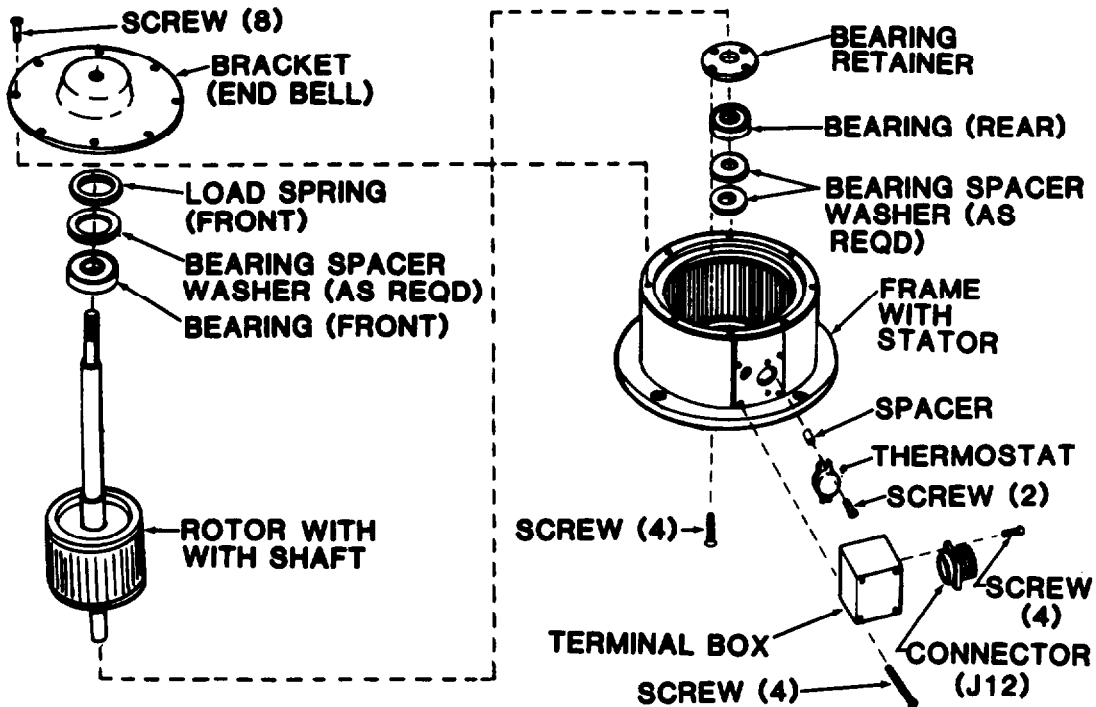

Figure 5-1. Evaporator and Condenser Fan Motor
b. Disassembly. Disassemble motor only as necessary to do required repair. (See figure 5-1.)
(1) To replace connector (J12):
- (9) See wiring diagram and tags and solder leads to new connector.